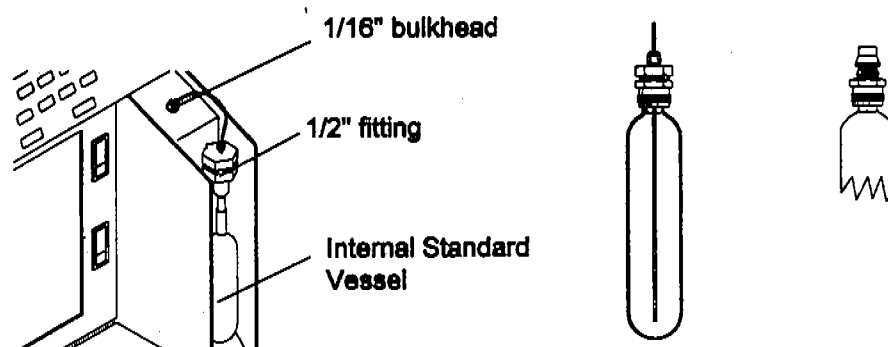

Figure 3-19 Internal Standard Vessel
1. Slide the nut and ferrule onto the vessel (see Figure 3-19 for proper orientation of the nut and ferrule).
4. To install the internal standard needle assembly (p/n 14-3879-053), slide a 1/16" Swagelok nut (p/n 14-0159-016) and 1/16" Teflon ferrule (p/n 14-0442-016) onto the needle (see Figure 3-19).